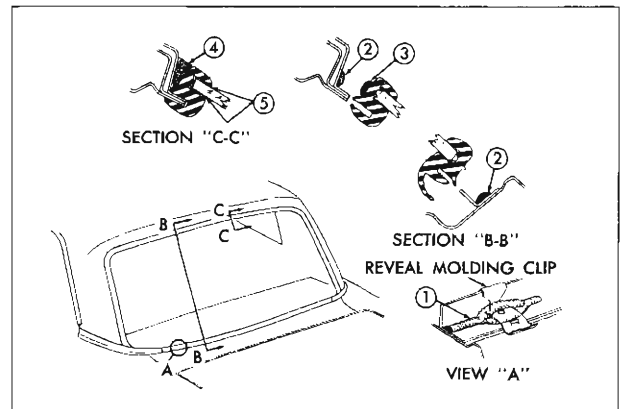

Fig. 5-3 Back Window Sealing
2. Check installation of reveal molding clips at pinchweld and retaining flanges and replace clips, where necessary. If replacing clips, apply medium-bodied sealer to opening rabbet, prior to installing clips (see "1" in View "A" Fig. 5-3).
3. Apply a continuous ribbon of medium-bodied sealer (approximately  $\frac{1}{2}$  inch wide by  $\frac{1}{4}$  inch thick) on wall of rabbet, completely around opening (see "2" in Section "B-B" Fig. 5-3).
5. Apply a continuous ribbon of medium-bodied sealer (approximately  $\frac{1}{2}$  inch wide by  $\frac{1}{4}$  inch thick) to base of rubber channel across top and down sides (see "3" in Section "B-B" Fig. 5-3).
8. Using a pressure-type applicator, apply sufficient medium-bodied sealer to completely fill any openings between rubber channel and body completely around rubber channel (see "4" in Section "C-C" Fig. 5-3).
9. Using a pressure-type applicator (Pistol-type oiler) apply weatherstrip adhesive (black) between rubber channel and glass on inside and outside of glass around entire perimeter of glass (see "5" in Section "C-C" Fig. 5-3). Application of adhesive should be continuous with no skips.